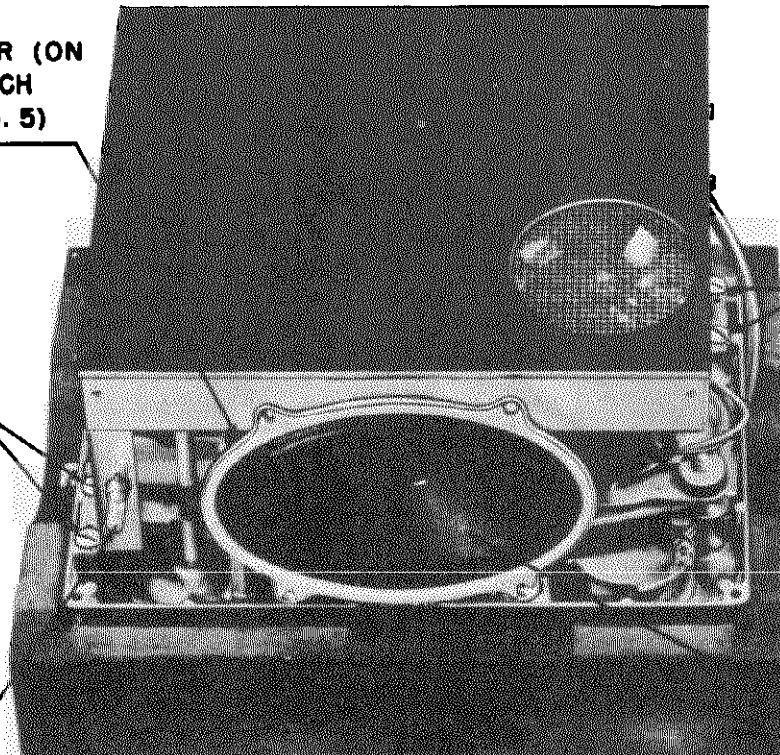

FIG. 3 - Bottom View of Recorder with Case Removed.
- (1) Removal: Place machine face down in wooden rack (see Fig. 3). Remove only truss head screws shown in illus-
(2) Assembly (see Fig. 3): Place mechanism face down in wooden rack. Position amplifier above mechanism. Insert Function switch shaft through switch arm (#2046) and into boss in body casting (see Fig. 10). Turn Function switch to REWIND position; tighten switch-arm set screw against flat on switch shaft. Return Function switch to STOP position. Replace truss head screws (#2445) through amplifier mounting bracket. Replace head and motor plugs.